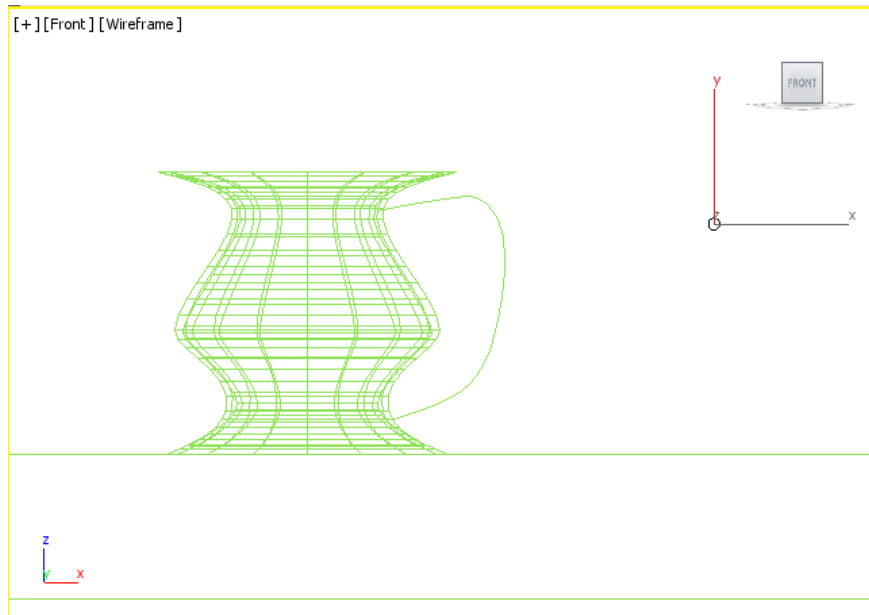

Figure 5-19 The circle created
1. Choose **Create > Shapes** in the **Command Panel**. Next, invoke the **Circle** tool. Create a circle anywhere in the viewport, as shown in Figure 5-19. Set the value **0.5** in the **Radius** spinner of the **Parameters** rollout (2 grid points),